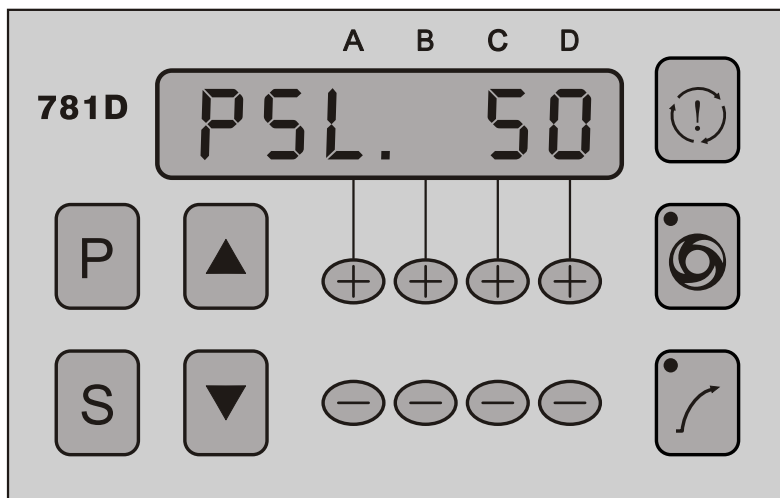

Figure 5-5, the acceleration curve adjustment% (user parameters 002.PSL) content of parameter selection screen.
3) Press S to enter the parameter to modify the contents of the interface, shown in Figure 5-5.